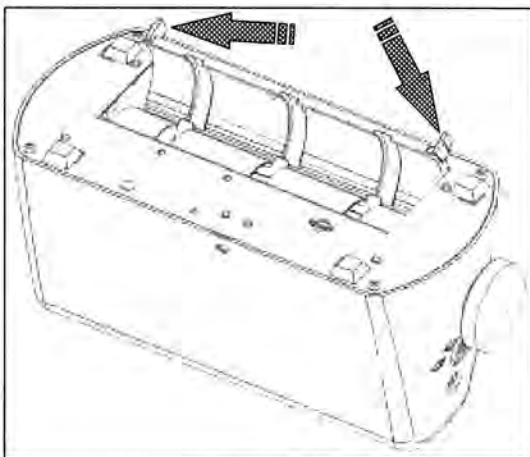

Figure 6
4. Depending on the severity of the jam, it may be necessary to gain access to the jammed paper through the dejamming door, located on the bottom of the folder (Figure 6). To open the dejamming door, carefully apply finger pressure to the outside of the dejamming door locking tabs, which will cause the tabs to bend inward, releasing the door so it can be opened.